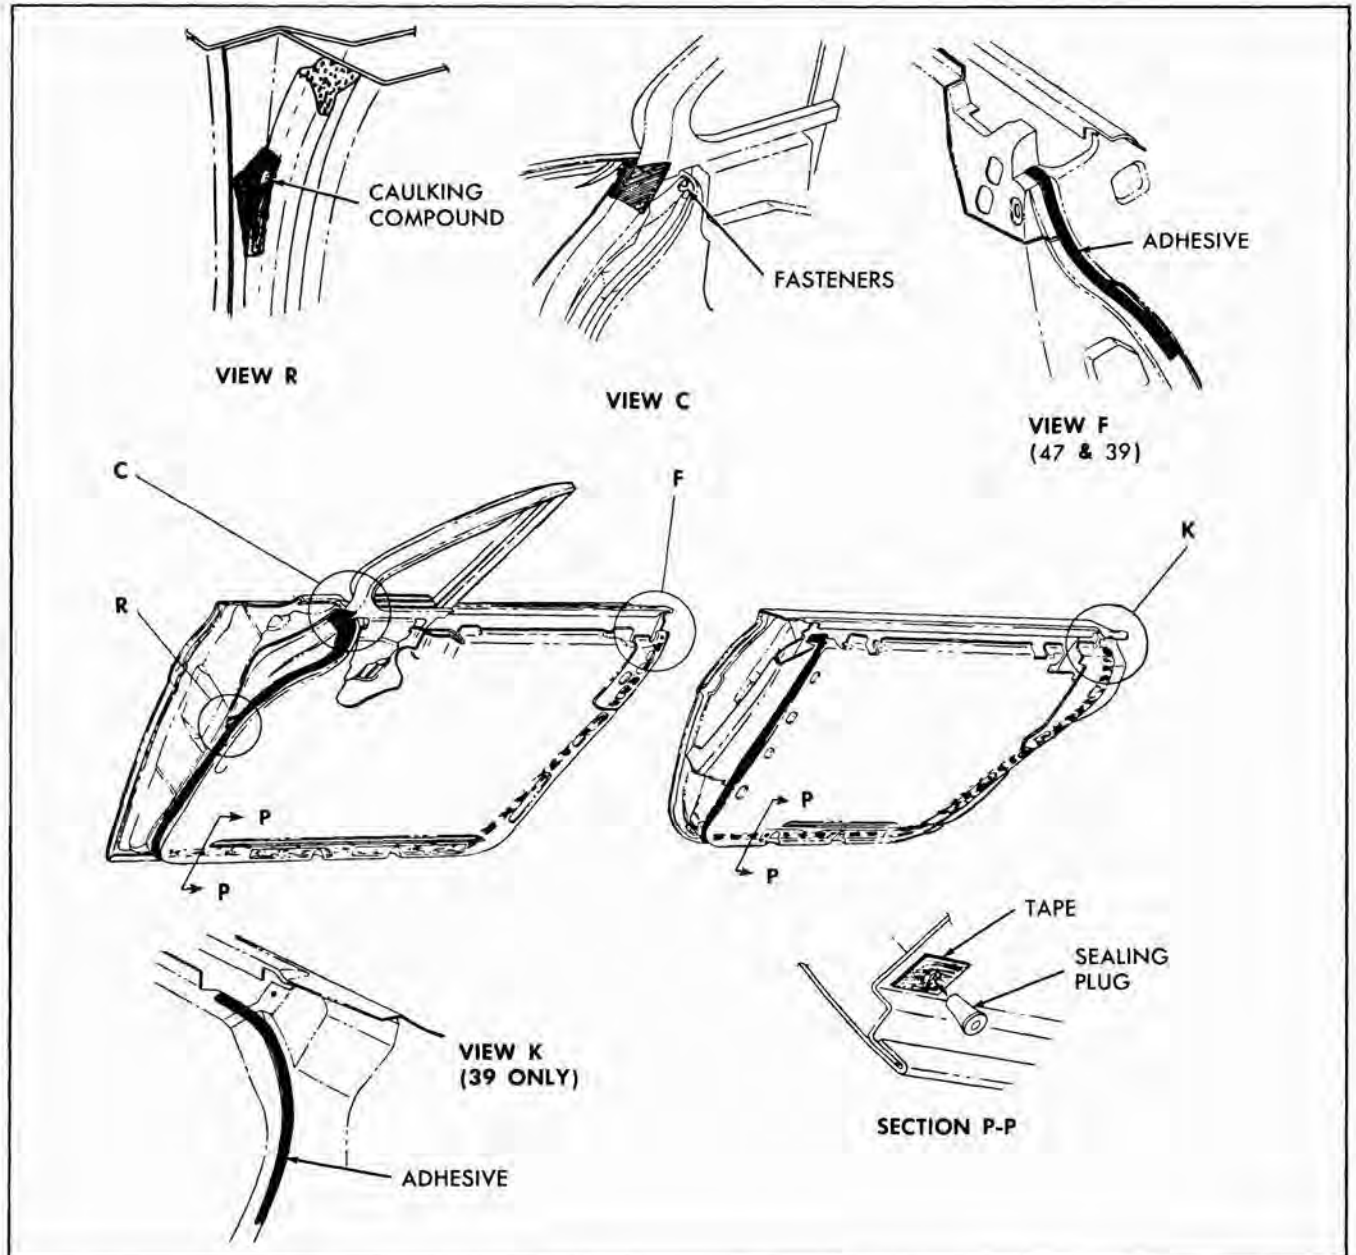

Fig. 3-2 Door Weatherstrip - 39, 47, 67 Styles
3. At upper rear section of front door weatherstrip on "39", "47" and "67" styles, carefully break cement bond securing weatherstrip to door inner panel (views "F" and "K" - Fig. 3-2).
2. Check all attaching hole sealing plugs. If sealing plugs are loose and will not remain engaged in door inner panel, install a 1/2" x 1" piece of cloth-backed waterproof body tape over sealing plug retaining hole as shown in Section "P-P" in Fig. 3-2. Make two (2) 5/16" slits in tape to form an "X" pattern. Install plugs and check for a snug fit. If plug is still loose, repeat above operation by installing a second piece of tape over existing repair. This procedure may also be used to repair waterleaks which may develop at sealing plug locations. If sealing plug becomes damaged, part must be replaced.
3. Clean off old cement from door to insure a clean cementing surface. On "47" and "67" styles, apply a nine (9) inch bead of an approved weatherstrip adhesive to lock pillar facing of front door (cove area) as illustrated in view "F" of Fig. 3-2. On "39" style, apply a nine (9) inch bead of an approved weatherstrip adhesive to lock pillar facing of rear doors as illustrated in view "K" of Fig. 3-2.
7. On front doors, midway down from top of weatherstrip, fill area between weatherstrip and door inner panel with body caulking compound (view "K" in Fig. 3-2).